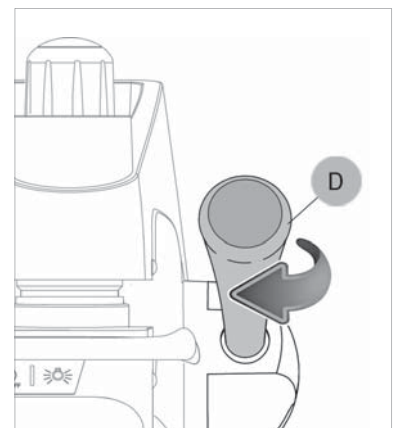

Fig. 50
- 7) Grip the levers (C) and (D).
- 9) Keep the clamp carriage still with the left-hand lever (C); lower the tool unit with the right-hand lever (D), stopping before coming into contact with the clamp (close to the key).
- 10) Without exerting pressure, turn the lever (D) clockwise to lock the height reached (Fig. 50).
- 11) Start the motor with the switch (Q).
- 12) Move the lever (C) to trace all the cuts on the key with the tracer point.